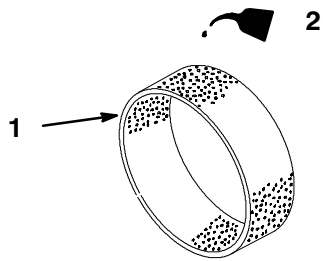

Figure 25
4. Put one or two ounces of oil on the element (Fig. 25).